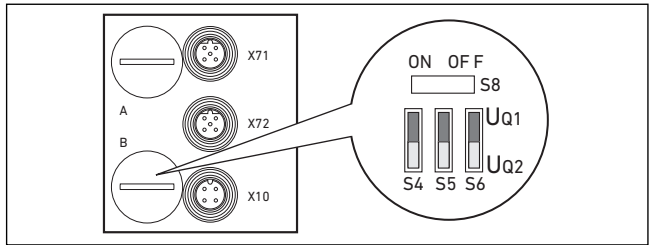

Fig. 9: S4, S5, and S6 switches for assigning valve supply voltages (U_{Q1}, U_{Q2})
The S4–S6 switches for assigning the valve supply are located beneath the PG screw cap **B** (see Fig. 9). The following is assigned to each switch:
1. Open the lower screw cap **B** (see Fig. 9 on page 108).
2. Using the S4, S5, and S6 switches, assign each valve group to one of the supply voltages U_{Q1} or U_{Q2} (see Tab. 14 and Fig. 9 on page 108).